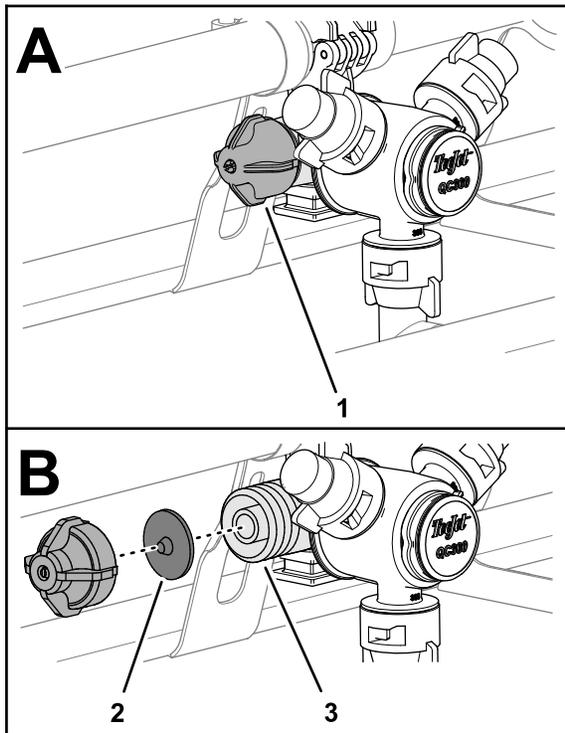

Figure 33
1. Rotate the diaphragm cap counterclockwise and remove the cap from the nozzle body (Figure 33).
2. Remove the check-valve diaphragm from the cap or nozzle body (Figure 33).
3. Clean the cap, diaphragm, and nozzle body with clean water (Figure 33).
4. Assemble the diaphragm into the cap with the nib of the diaphragm toward the cap (Figure 33).
5. Assemble the cap and diaphragm to the nozzle body and tighten by hand (Figure 33).